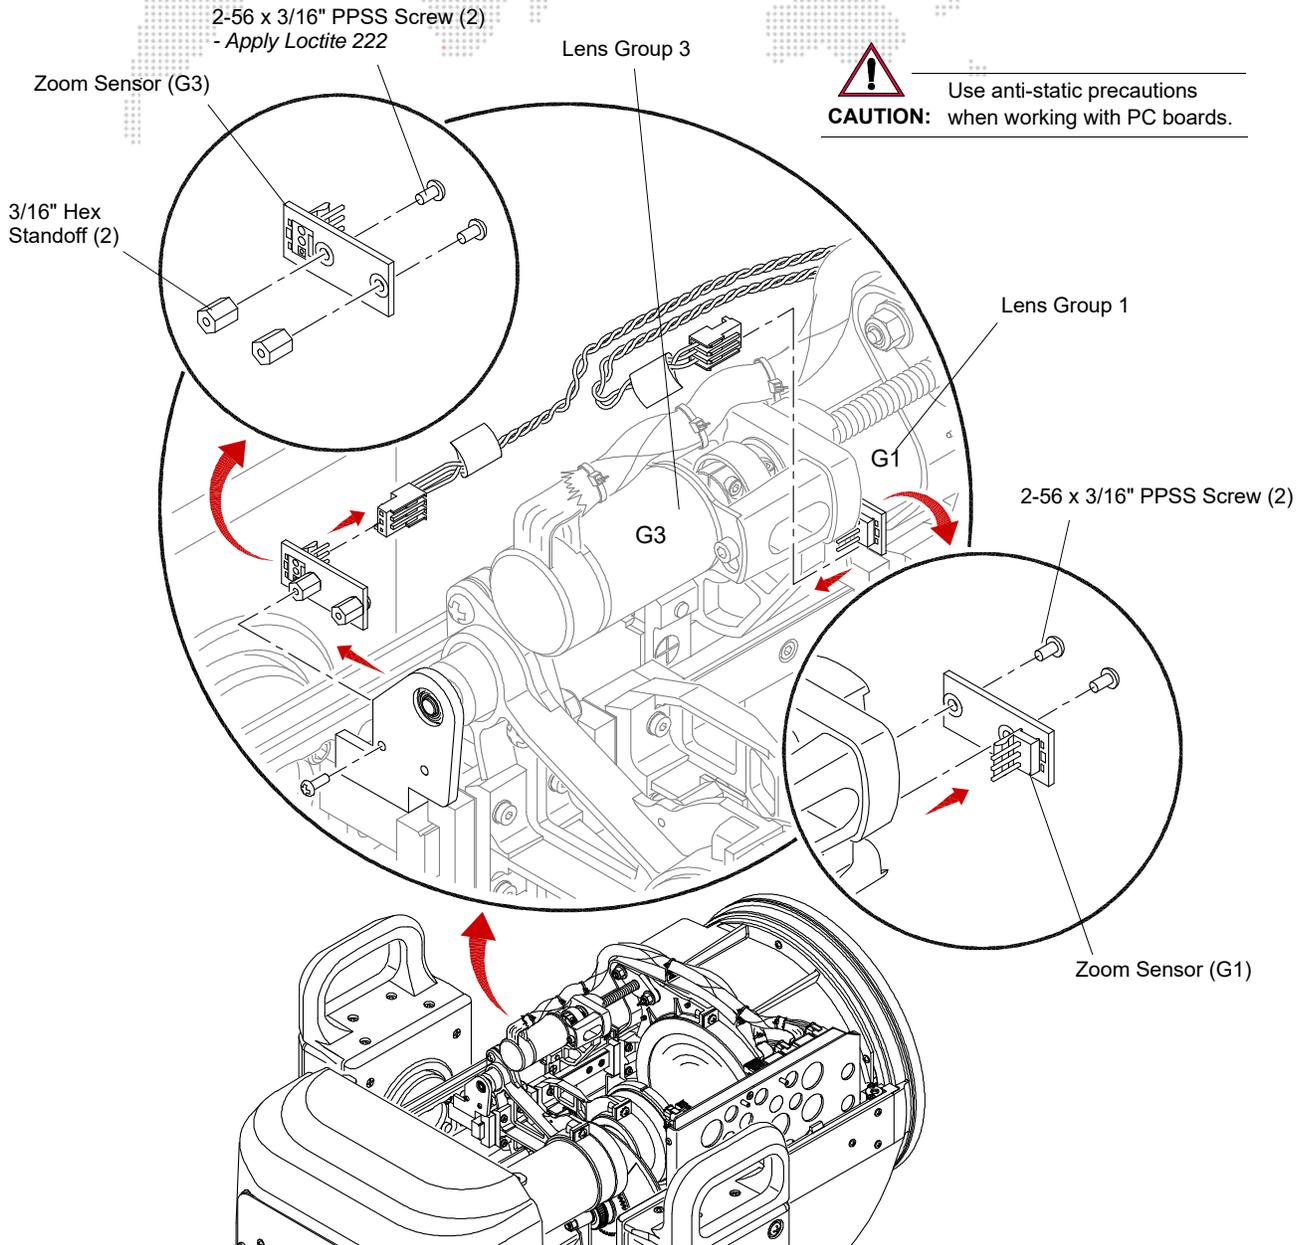

Figure 3-31: Removing Zoom Sensors 1 & 3
- b. At Zoom Sensor, disconnect cable from header (**Figure 3-31**).